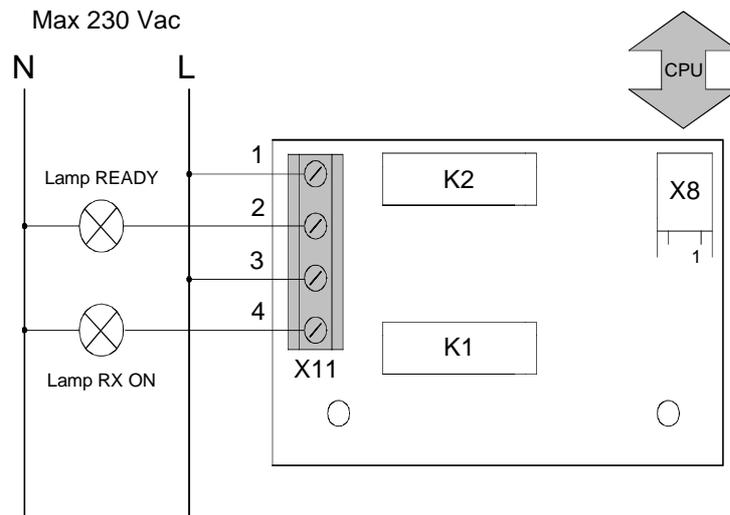

Figure 6-12
- A signaling device indicating "READY" and "RX ON" status can be connected to X11 connector of the "External signal" board A5 (Figure 6-12).